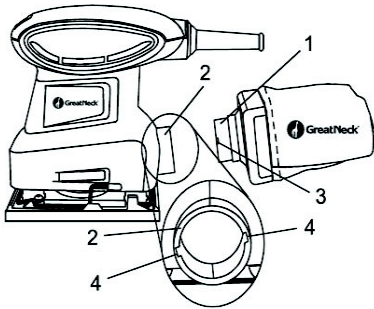

Fig. 1
1. Insert dust duct bag assembly sleeve (1) into dust chute (2) (see Fig. 1).